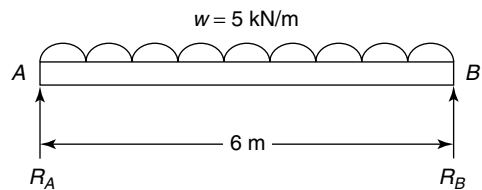

Figure 6.38
**Problem 7.** Determine expressions for the bending moment and shearing force diagrams for the simply supported beam of Figure 6.38. The beam is subjected to a uniformly distributed load (UDL) of  $5 \text{ kN/m}$ , which acts downwards, and it is spread over the entire length of the beam.